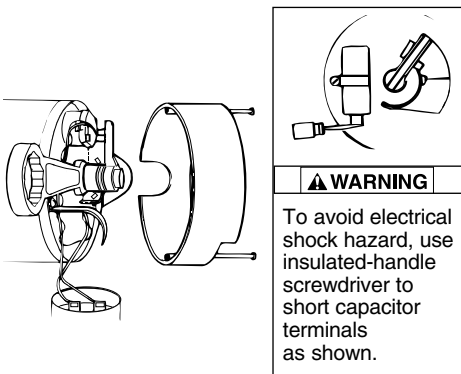

Figure 15: Hold Shaft
2. If impeller must be replaced, loosen two machine screws and remove motor canopy (see Figure 15).
3. **⚠ WARNING** Capacitor voltage may be hazardous. To discharge capacitor, hold insulated handle screwdriver **BY THE HANDLE** and short capacitor terminals together (see Figure 15). Do not touch metal screwdriver blade or capacitor terminals. If in doubt, consult a qualified electrician.